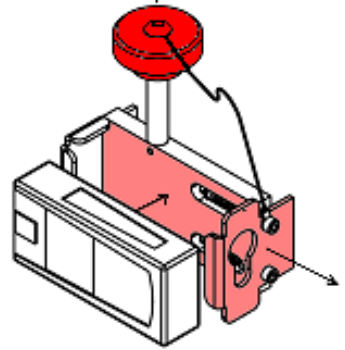

Figure 2
3. Place the Laser Range-finder into the Laser Carriage by extending the front, sprung plate (as shown in figure 2).
4. Carry the tool to the point on the rail opposite the measurement target. Place the Laser Carriage into an appropriate Pivot Socket and lock in the socket using the Locking knob attached (as shown in figure 2). Switch the Laser Rangefinder on to ensure that laser falls onto target.